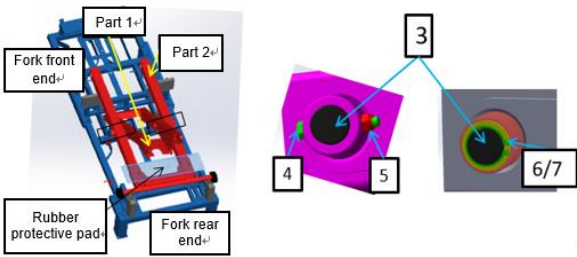

Fig. 4.17 Installation of first layer fork
- a) As shown in Fig. 4.17, place parts 1 and 2 to the fork part trolley, and pay attention to the direction;